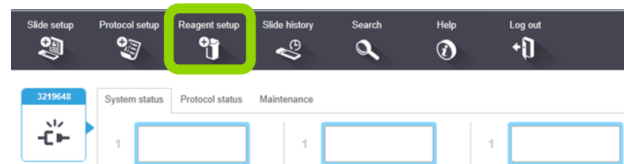

Figure 82: Reagent setup icon
1. Select the **Reagent Setup** icon (see Figure 82).